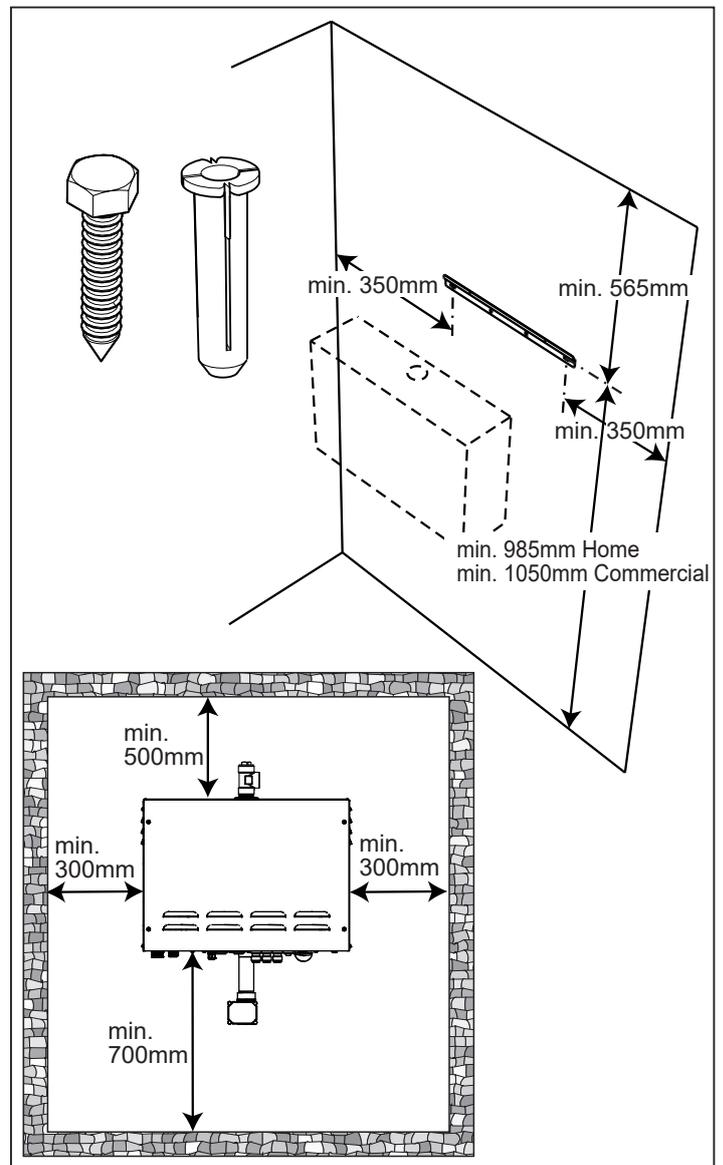

Figure 3 Suspending the steam generator
- Location of steam generator – see Figures 3, 4, 5
Take care to respect the specified installation distances (Figures 3, 4). The distances indicated are generous to allow sufficient space for maintenance and servicing.